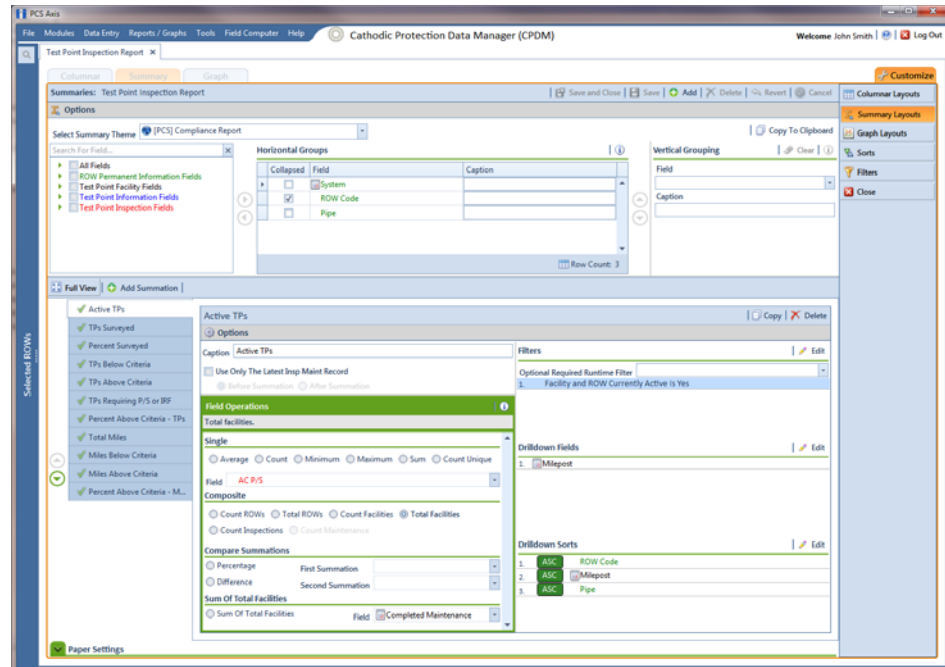

Figure 15-33. Summary Layouts
- 4 Click the **Summary Layouts** button  to open the *Summaries* page (Figure 15-33, page 615).